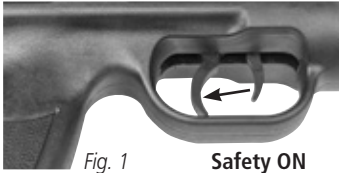

Fig. 1
- To set the safety to 'ON', pull safety lever to the rear. In this position, the trigger cannot be pulled and the gun cannot be fired. (Fig. 1)
CAUTION: Until you are actually ready to shoot, keep the safety in the "ON" position (Fig. 1).